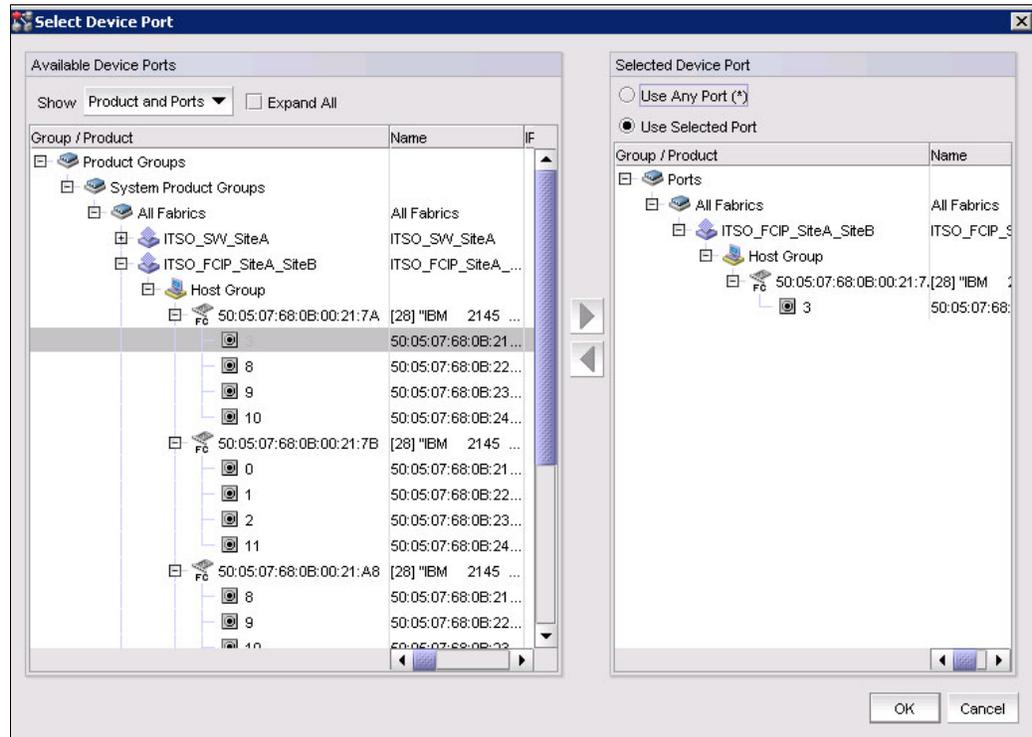
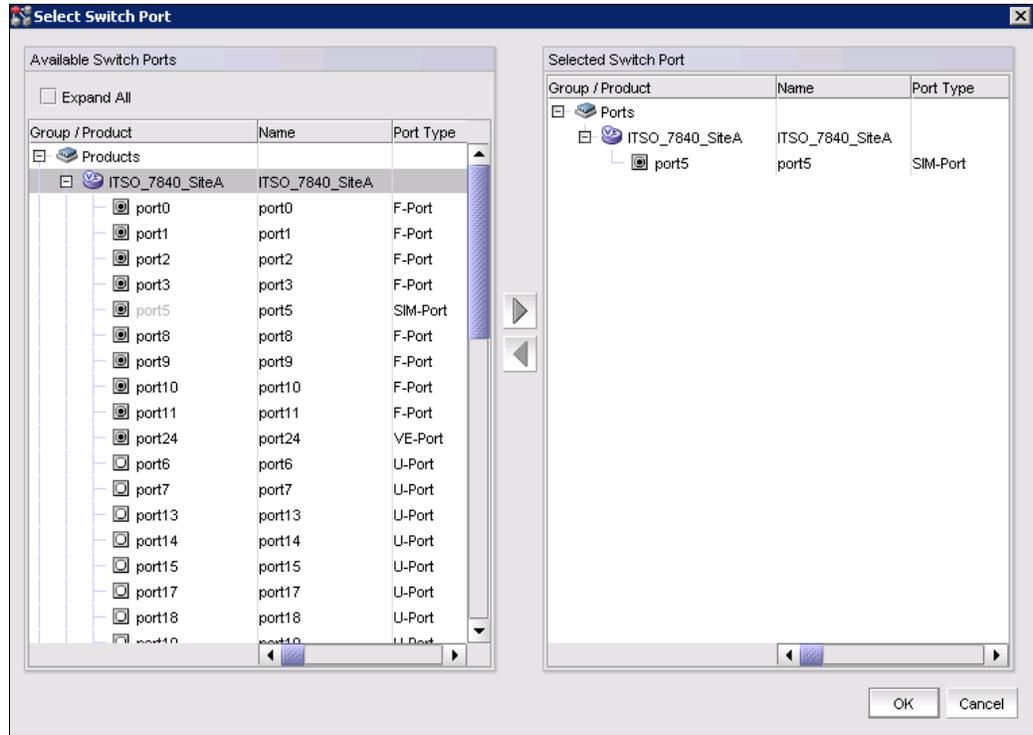

Figure 7-16 Select port for flow creation
Figure 7-17 Select Ingress and Egress ports
8. Click the ellipsis button to the right of **Source** and **Destination** fields to display the Select Device port window. Select the port ID or WWN from the list of **Available Device Ports** (Figure 7-16). Click the right arrow to move the selected port to the Selected Device Port pane and click **OK** to confirm the selection.
- Click the ellipsis button to the right of the **Ingress** and **Egress** fields to display the Select Switch Ports window. Select the Port ID or WWN from the list of **Available Device Ports** (Figure 7-16 on page 227). Click the right arrow to move the selected port to the **Selected Device Port** pane and click **OK** to confirm the selection (Figure 7-17).